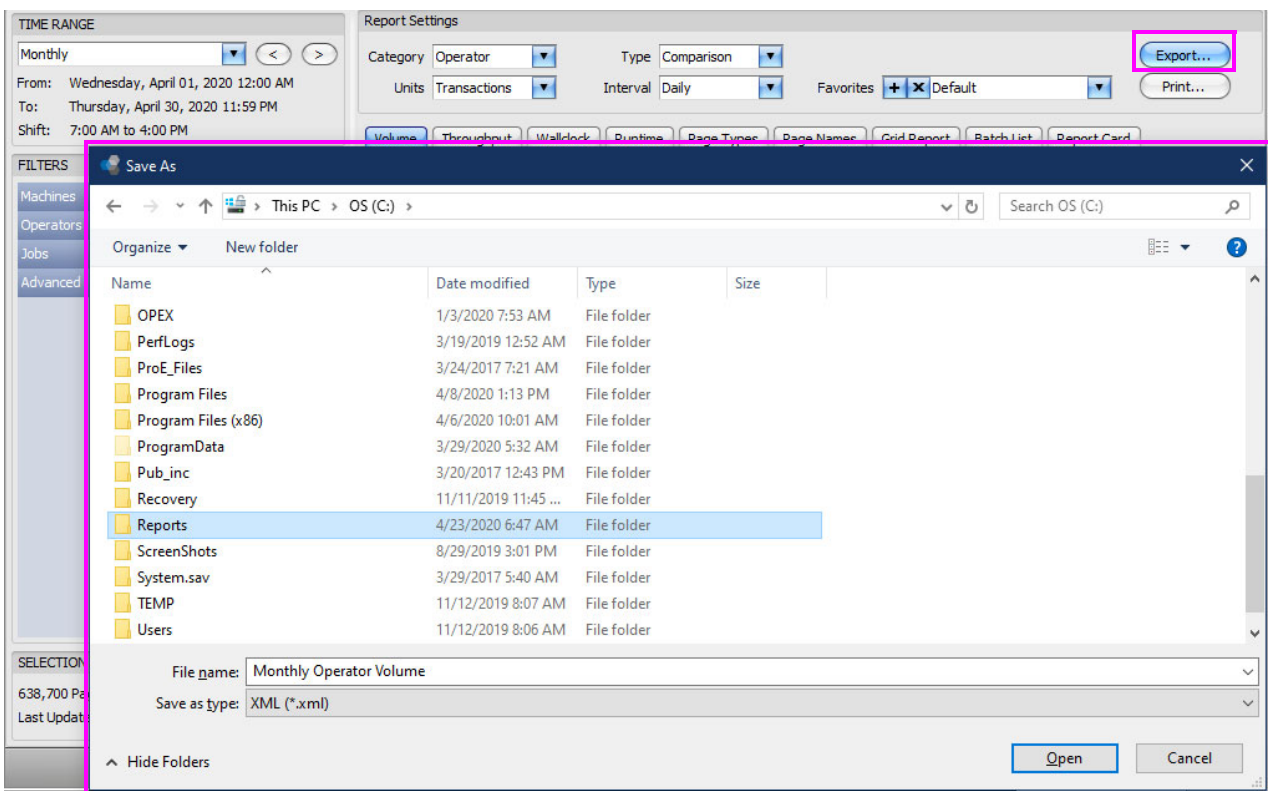

Figure 4-41: Save As window
1. Click the **Export** button. A **Save As** window will open (Figure 4-41).